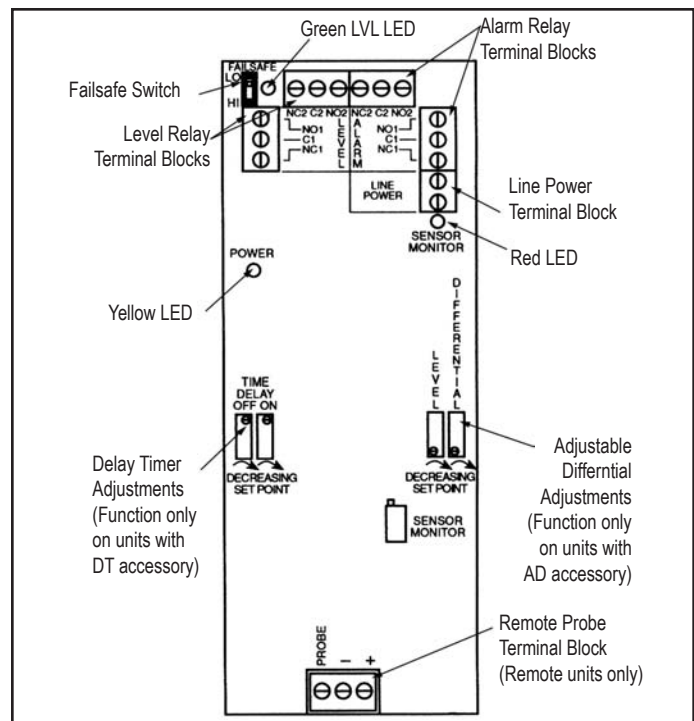

FIGURE 10
5. Apply appropriate power to terminals of Line Power Terminal Block. (See page 4.) Move failsafe select switch to LO position and observe green LVL LED. (See Figure 10.)
See Figure 10
2. Locate the DIFFERENTIAL adjustment (see Figure 10), and rotate the screw head fully counterclockwise. Stop when you hear a small click.
The delay timer is present in units which contain a **DT** near the end of the model number. Two potentiometers located on the control board adjust the delay timer. (See Figure 10.)